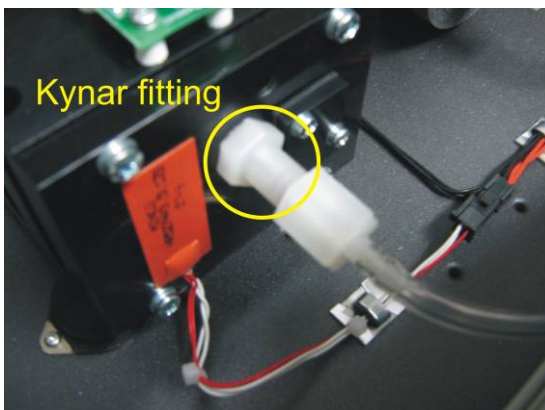

Figure 58 – Kynar Fitting Containing Orifice and Sintered Filter
2. Unscrew the Kynar nut from the fitting (anti-clockwise) on the **Measurement Cell** (refer to Figure 58).